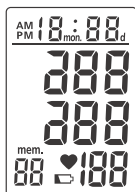

Fig. 1
1. Wrap the cuff on the wrist. Press the START key. All digits will light up checking the display functions (see fig.1). This will take approximately 2 seconds.